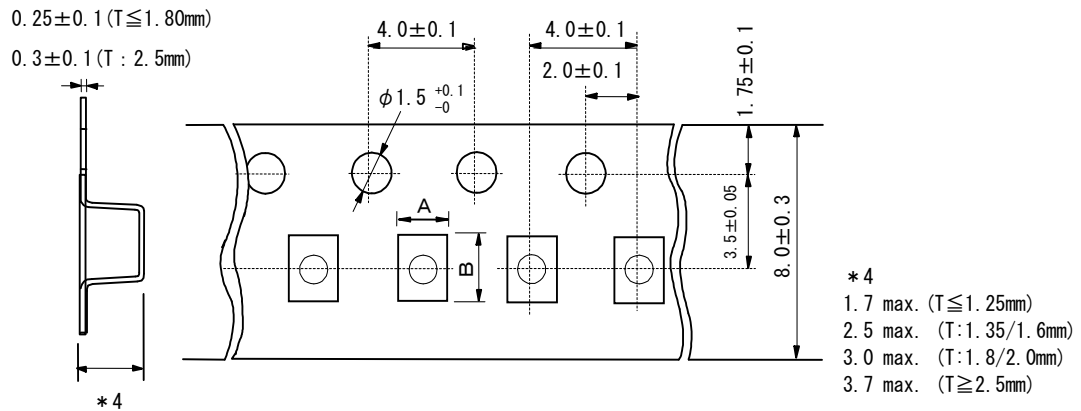

Fig.1 Package Chips (in:mm)
1.6 Chip in the tape is enclosed by top tape and bottom tape as shown in Fig.1.